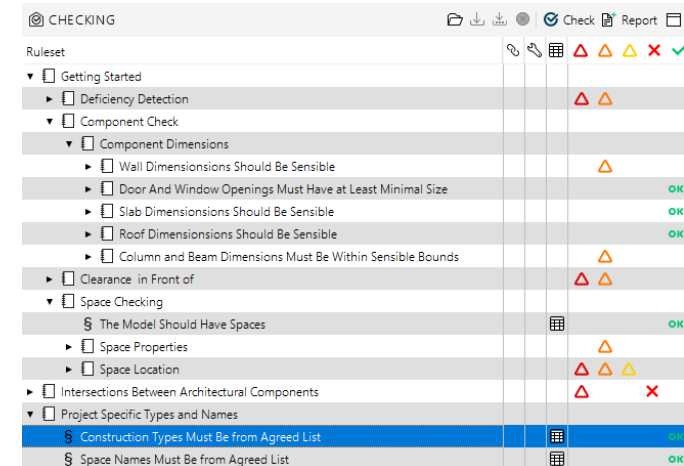

Figure 43: Checking tree table
- (3) During the checking process, you can expand or close the rule tree and start analyzing the results that are generated.
- (4) Once the model is checked, the **Checking Tree Table** (see figure 43) shows the status of each rule. The status may be  (accepted, decision made that some issues required no actions),  (passed), or  (irrelevant or ignored, in case the BIM file does not have information the rule needs),  (rejected, decision made some issues must be fixed) or it has a problem classified as **Critical** , **Moderate** , or **Low Severity** .